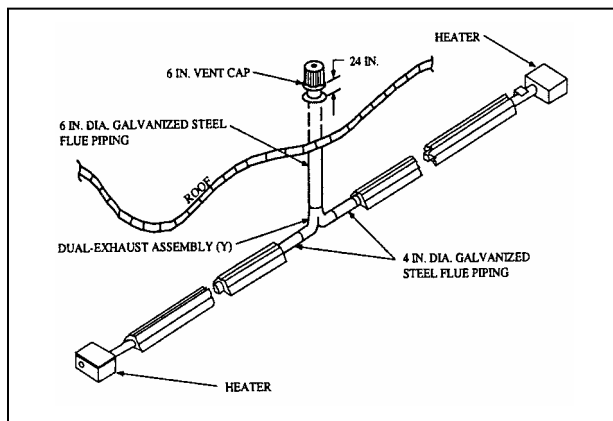

Figure 2-22
- A common flue of 6 in. diameter must be used for double venting of units. One thermostat must control both units. **When common venting is used, flue should be connected so that the byproducts of one heater cannot flow into the adjoining flue of the other heater.** A dual exhaust assembly is available from Detroit Radiant, Part No. Y or RT (see Figures 2-22 through 2-24). A Field Controls SK-6 vent cap must be used for sidewall common venting of DX 200 Models.